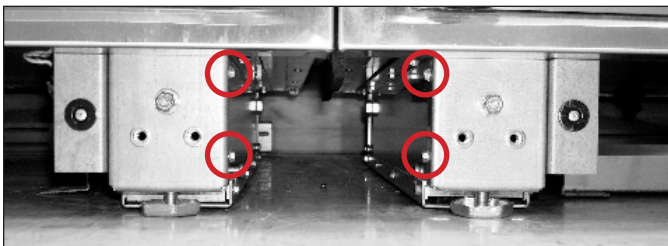

FIG. 17. Return the magnet bracket screws to their original locations.
10. With the provided hardware, install the joining bracket across the interior legs. See figs. 17 and 18.